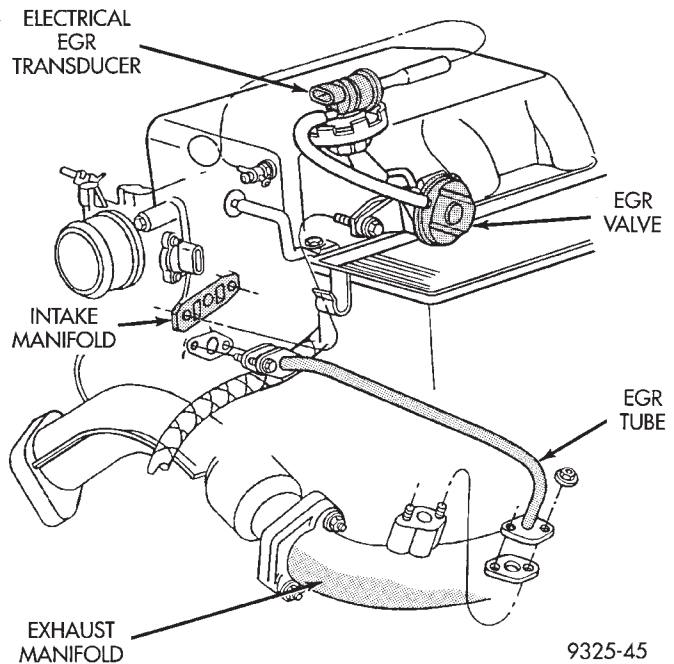

Fig. 13 EGR System Service—3.0L Engines
- (1) Disconnect the electric and vacuum connectors from the electric EGR transducer (EET) (Fig. 13).
- (2) Remove EGR valve mounting bolts.
- (3) Clean all gasket surfaces and discard old gas-
- (1) Remove EGR tube flange nuts from exhaust manifold (Fig. 13).
- (2) Remove EGR valve nuts at intake manifold (Fig. 13). Remove EGR tube.
- (3) Clean all gasket surfaces and discard old gaskets. Check for any signs of leakage or cracked surfaces. Repair or replace as necessary.